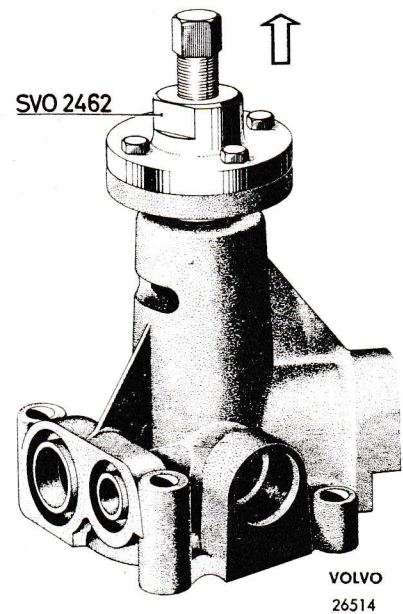

Fig. 77. Removing the hub
2. Fit puller SVO 2462 on the hub with the bolts for the pulley and pull off the hub. See Fig. 77.